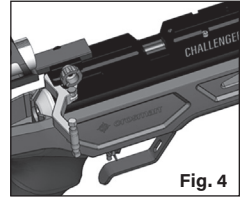

Fig. 4
2. Pull the side lever back to the cocked position (Fig. 4).